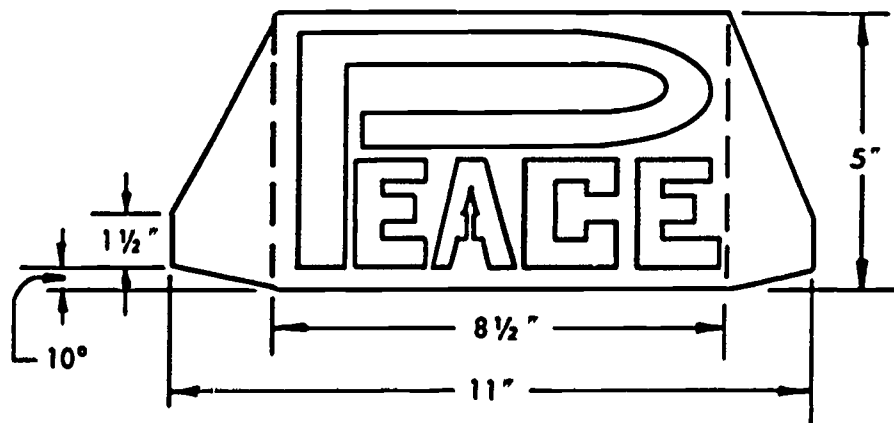

Fig. 61-3. Cut Out
11. Drill three $\frac{3}{8}$ " holes for light sockets in a $\frac{3}{4}$ " x $1\frac{1}{2}$ " x $8\frac{3}{4}$ " piece of wood. See Figs. 61-3 and 61-4.